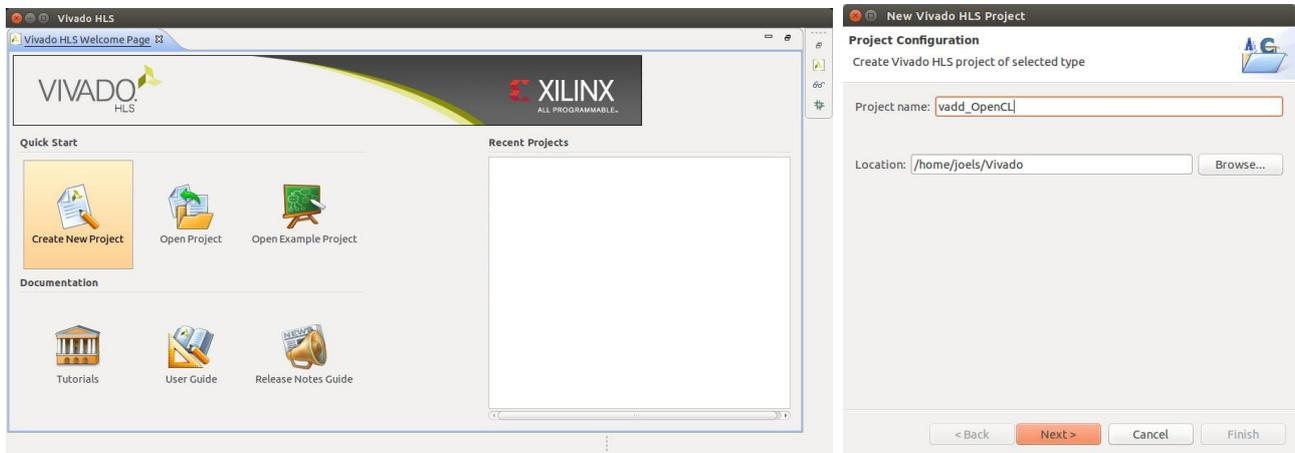

Figure 1: Project creation and naming
- step1: Create a project and name it “`vadd_OpenCL`”, see figure 1.